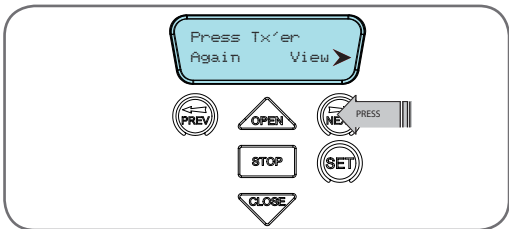

Fig G.3
- Press NEXT to view the transmitter parameters (**Fig. G.3**).